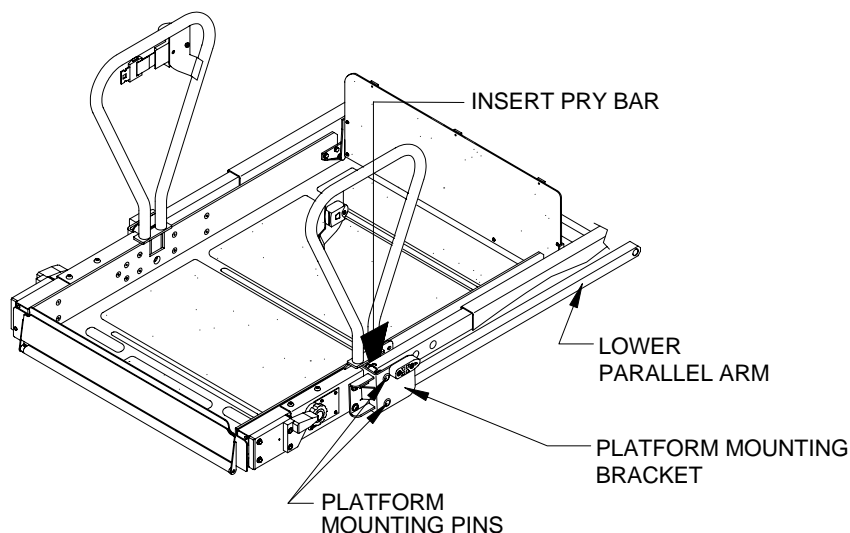

FIGURE 4-12: PLATFORM SEPARATION FROM LIFTING FRAME
- k. Refer to **Figure 4-12**. Remove bottom platform mounting pins from platform mounting brackets, and drop lower parallel arms (lower arms can be tied to upper arms for convenience).